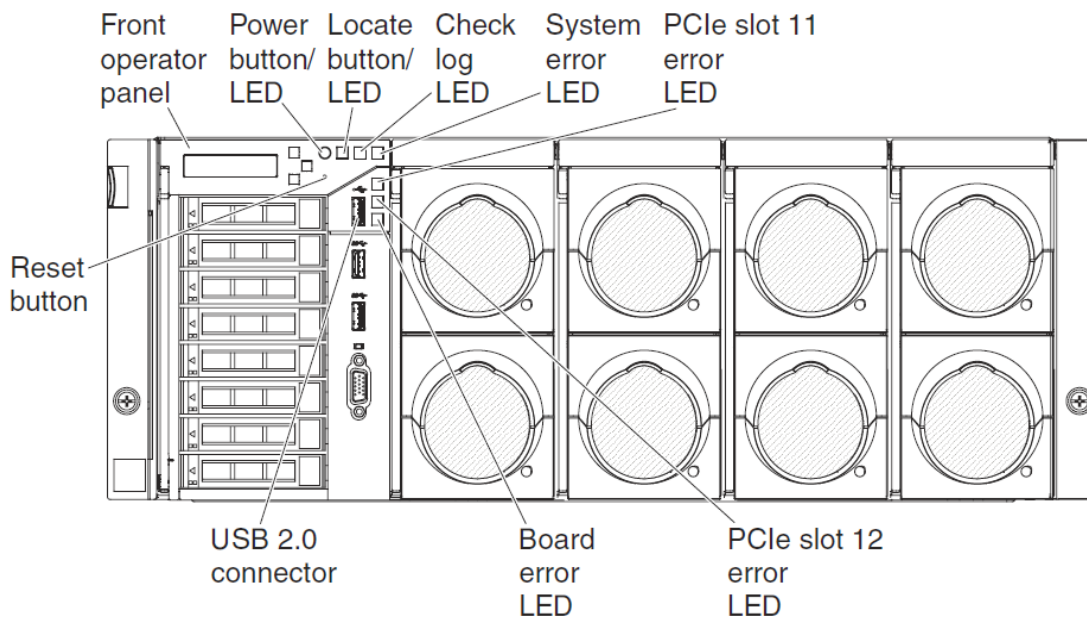

Figure 50: Front operator panel
1. Look at the front operator panel on the front of the server. See **Figure 50**.